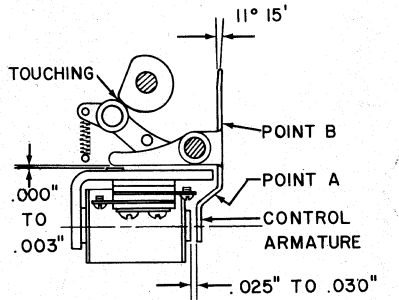

Figure 3
3. With the control armature assembly roller on the high dwell of the armature knock off cam, form the armature stop arm for .000" to .003" clearance to the residual pin (Figure 3). At this time there should be .025" to .030" clearance between the control armature and